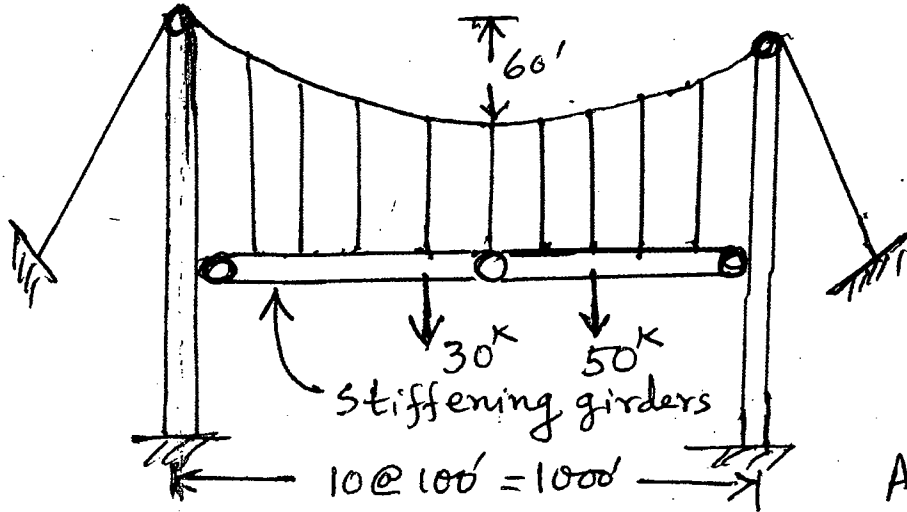

Fig. 3 (Q. no. 3)
3. (a) Determine hanger force of the suspension bridge shown in Fig. 3.